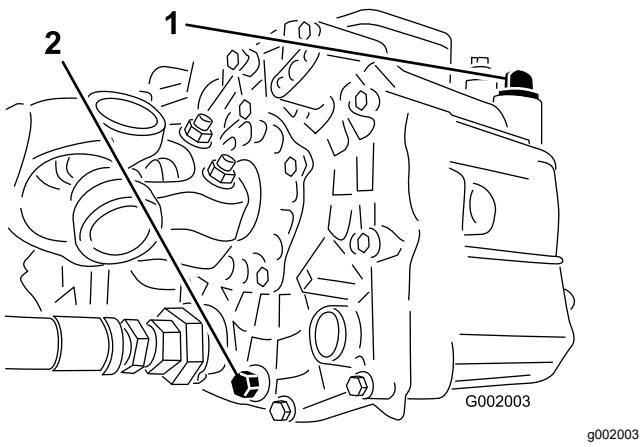

Figure 55
3. Remove the drain plug from the side of the reservoir, and let the hydraulic fluid flow into the drain pan (Figure 55).